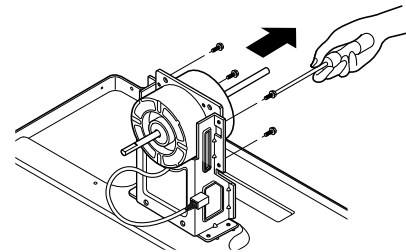

FIG. 33
5. Remove the 4 or 2 screws which fasten the motor. (See Fig. 33)